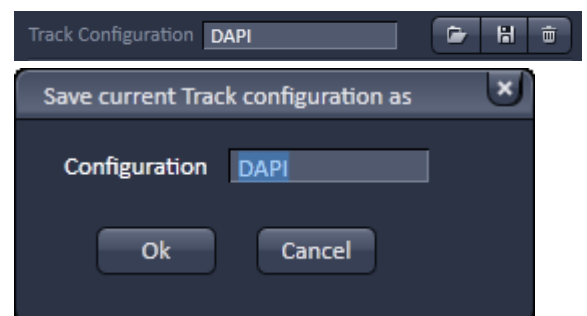

Fig. 19 Track configurations functions
- For storing a new track configuration open the **Channels** tool in the **Acquisition Parameter** tool group, click  and enter a desired name in the first line of the list box (Fig. 19), then click **Ok** to store the configuration.